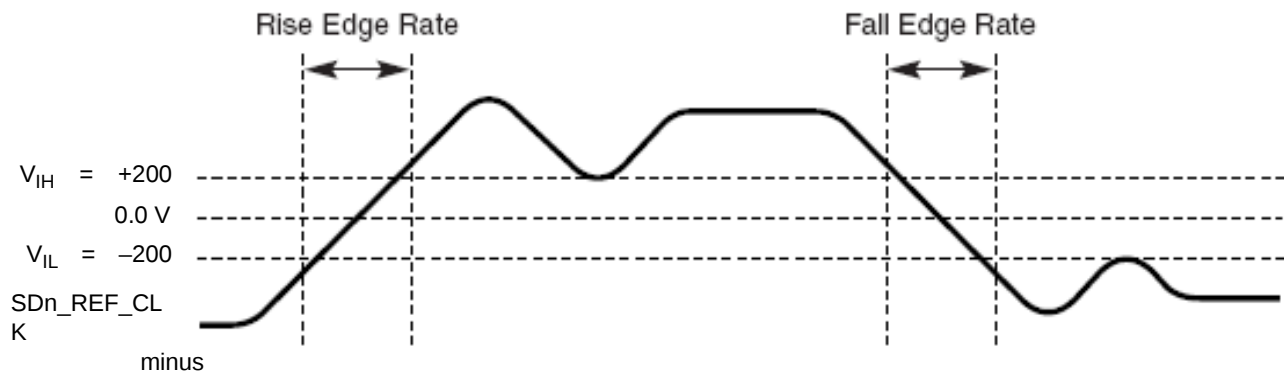

Figure 46. Differential Measurement Points for Rise and Fall Time
3. Measured from -200 mV to +200 mV on the differential waveform (derived from SDn_REF_CLK minus $\overline{\text{SDn_REF_CLK}}$). The signal must be monotonic through the measurement region for rise and fall time. The 400 mV measurement window is centered on the differential zero crossing. See Figure 46.